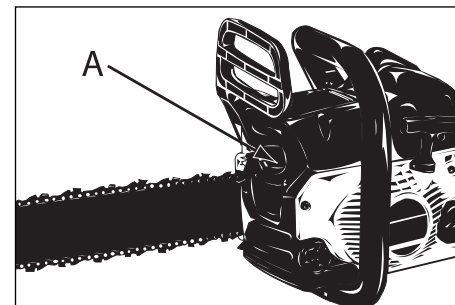

Fig. 17A
1. Remove the 2 bolts (A) and pull muffler out. (Figure 17A).